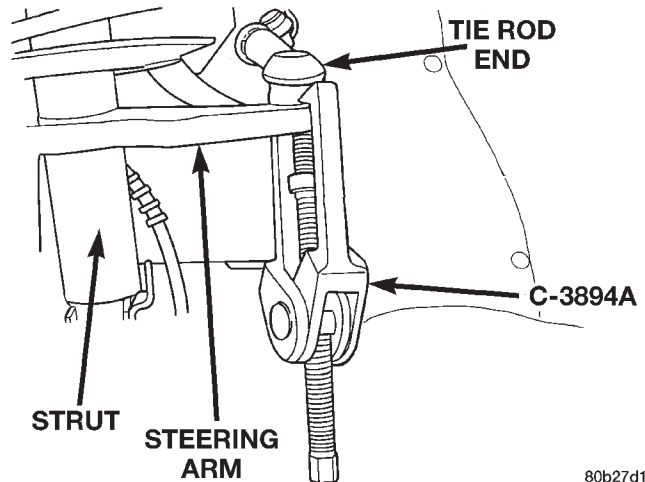

Fig. 19 Tie Rod End Removal From Steering Arm
(27) Remove the tie rod end from the steering arm of the strut using Puller, Special Tool C-3894-A (Fig. 19).